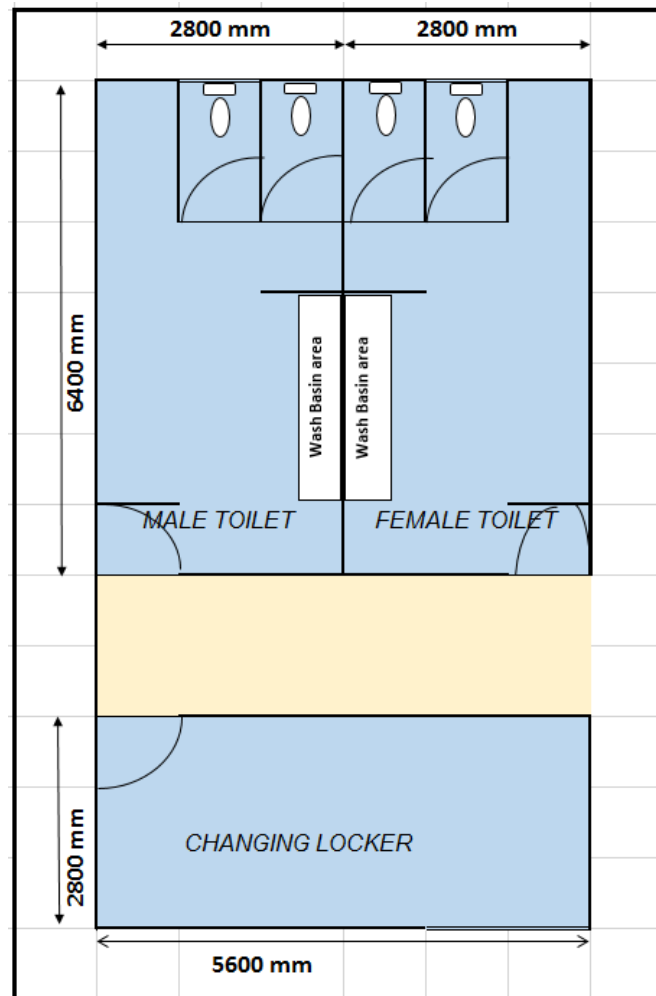

Figure 2/Rajah 2
- (a) A restroom area measures 10.8m x 5.6m which include in the Male and Female Toilets and Changing Locker room as shown in Figure 2. The measurement for ceiling to work area height is 3 meters. The area is to be illuminated to a general level of 150 lux for the Toilets and Changing Locker Room using the same triple lamp 18 watt VDT Ceiling Recessed luminaires. Each lamp has an initial output of 1,050 lumens. The lamps are operated for 10,000 hours before being replaced. Lamps and luminaires are cleaned annually and the room is cleaned every two years. Each rooms has a bright interior with room reflectance 70% ceiling, 50% walls and 20% floor.